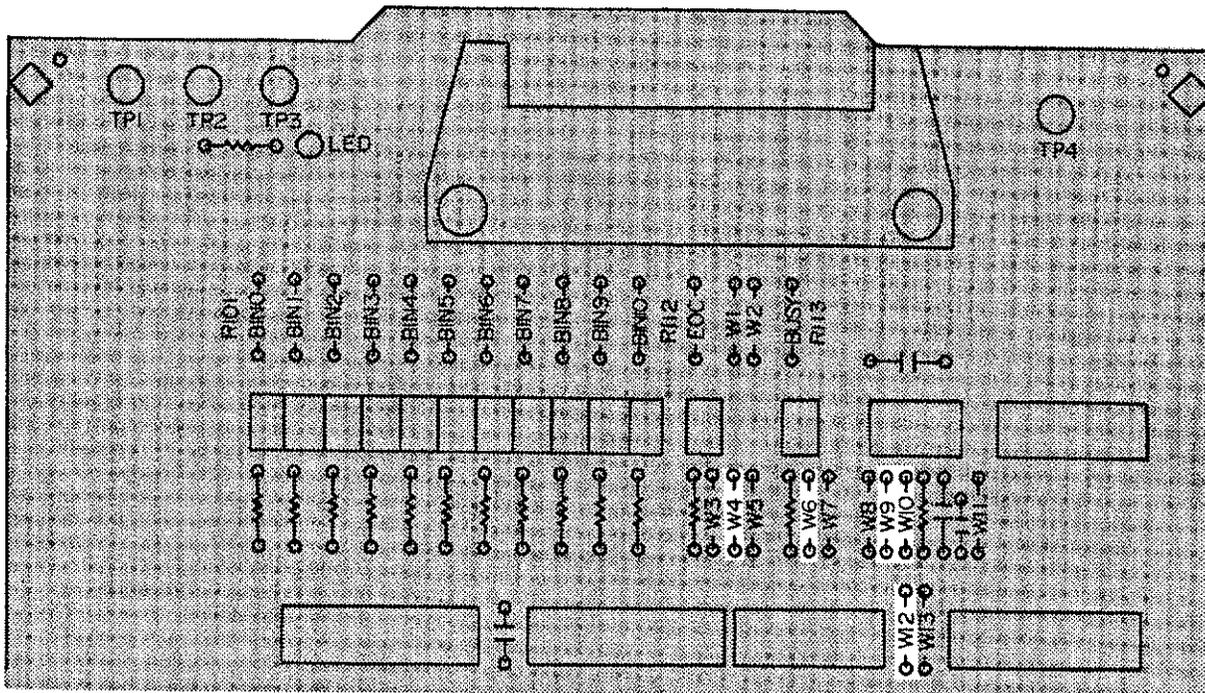

Figure 4-34. EA M015 Jumper and Pull-Up Resistor Locations
1. Configure the following interface signals by installing the jumpers as shown in Figure 4-34.